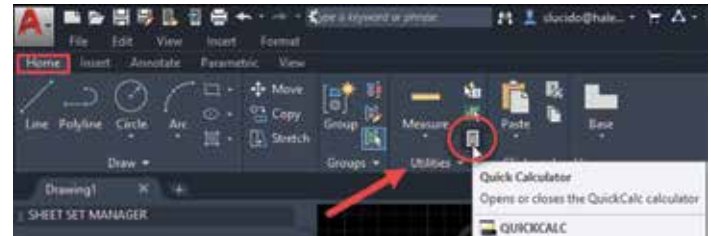

Figure 5
1. On the ribbon, Home tab, Utilities panel, QuickCalc button (Figure 5).